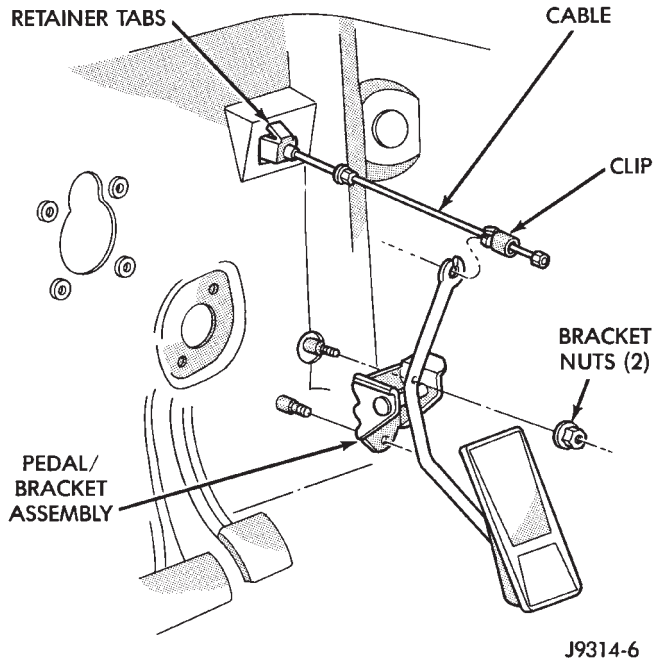

Fig. 40 Accelerator Pedal Mounting
The accelerator pedal is connected to the throttle body linkage by the throttle cable. The cable is protected by a plastic sheathing and is connected to the throttle body linkage by a ball socket. It is connected to the accelerator pedal arm by a plastic retainer (clip) (Fig. 40). This retainer (clip) snaps into the top of the accelerator pedal arm. Retainer tabs (built into the cable sheathing) fasten the cable to the dash panel.
(1) From inside the vehicle, hold up accelerator pedal. Remove plastic cable retainer (clip) and throttle cable core wire from upper end of pedal arm (Fig. 40). Plastic cable retainer (clip) snaps into pedal arm.
(2) Remove the cable core wire at pedal arm.
(3) From inside the vehicle, pinch both sides of the cable housing retainer tabs (Fig. 40). at the dash panel. Remove cable housing from dash panel and pull into the engine compartment.